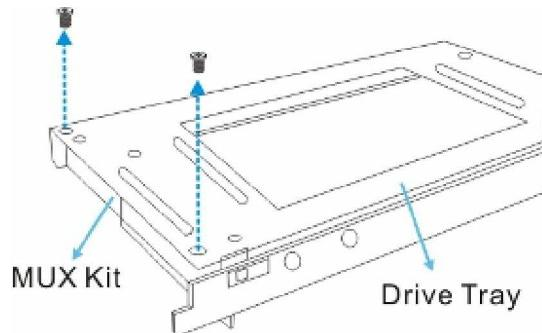

Figure 5-35: Removing the Retention Screws
-  **Step 3.** *Remove the two (2) MUX kit retention screws.* The MUX kit is secured on a drive tray by two (2) retention screws. Turn the drive tray over and remove these screws. (See *Figure 5-35*)